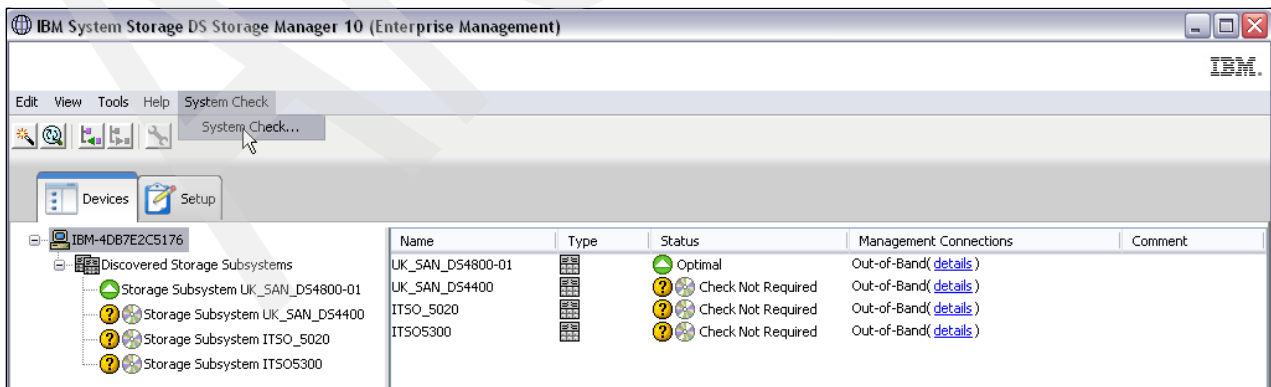

Figure 7-15 DbFix first window
2. If you are using the Windows workstation with Storage Manager client already configured, then launch the DbFix utility by double-clicking the SMdbCk.bat icon; otherwise, select the SMdbCkStandalone.bat icon. The first window looks very similar to the normal Storage Manager Enterprise Management window, as shown in Figure 7-15.